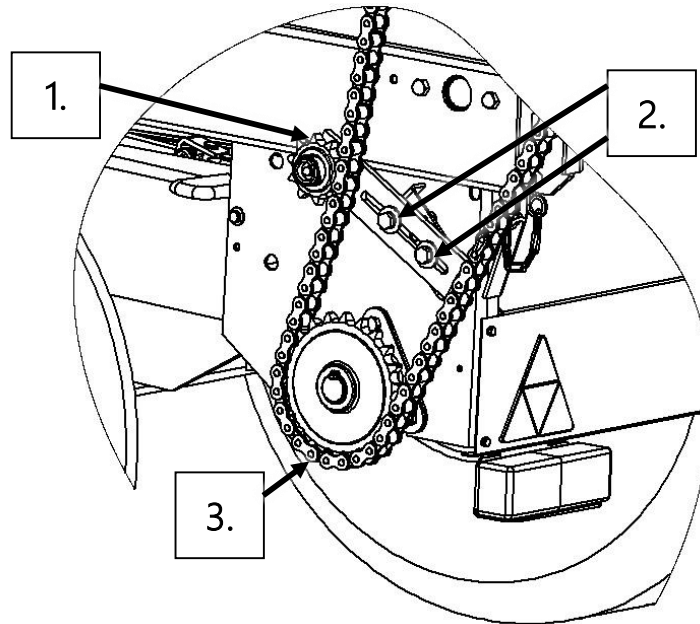
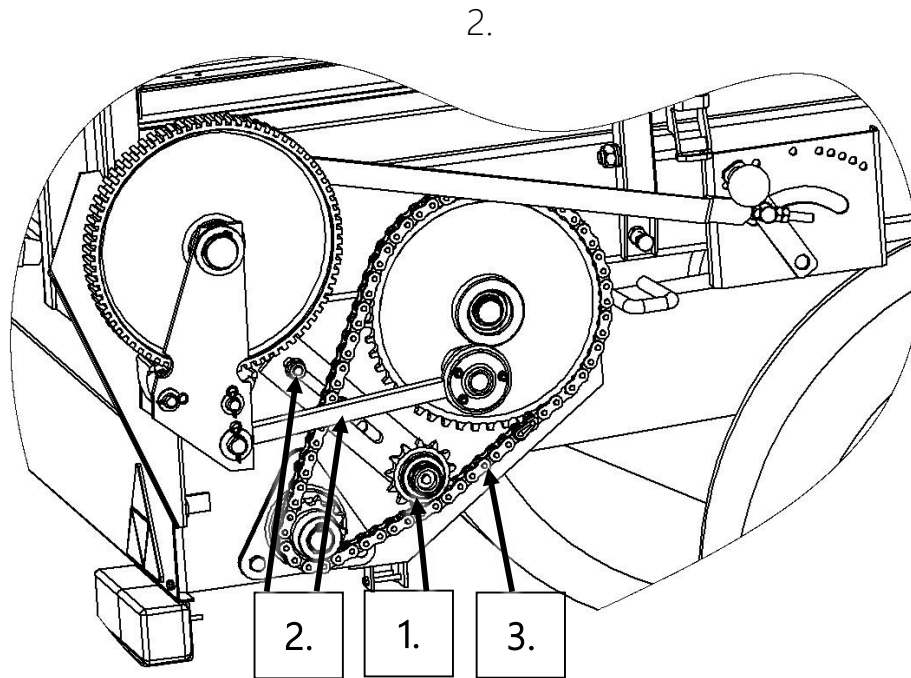

Figure 23. Adapter drive.
Figure 24. Floor conveyor drive.
The tensioner (item 1, fig. 23 and fig. 24) serves to adjust the tension of the floor conveyor's and adapter's drive chain. The play on the working part of the chain at half of its length should be 5-15mm, and 5-20mm near the adapter's drive.
- Loosen fixing screws. (item 2, fig. 23 and fig. 24)
- Slide the tensioners (item 1, fig. 23 and fig. 24) in the direction of the chain (item 3, fig. 23 and fig. 24) until the proper play is achieved and then fasten screws once again (item 2, fig. 23 and fig. 24).